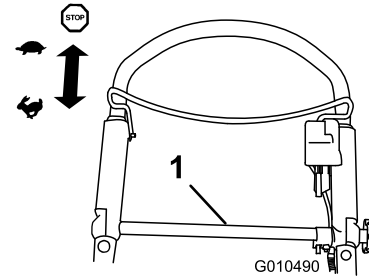

Figure 24
To operate the self-propel drive, simply walk with your hands on the upper handle and your elbows at your sides, and the mower will automatically keep pace with you (Figure 24).
**Note:** If, when backing up after self-propelling, the mower does not roll backward freely, nudge the mower forward about an inch or two without engaging the self-propel drive (Figure 24), then pull the mower backward.